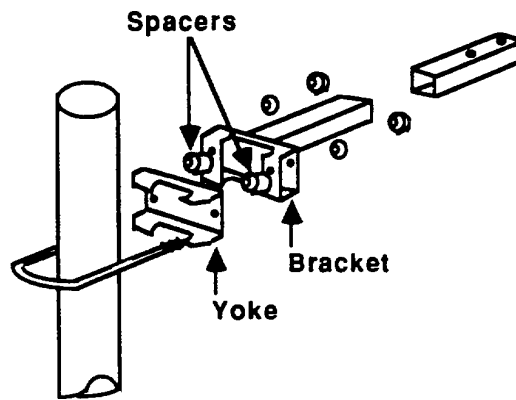

Figure 4.3.
- 5102-1 90° Mounting Bracket Used to mount the hardware, associated with the other field and sense wire(s), to the fence. Refer to Figure 4-3.